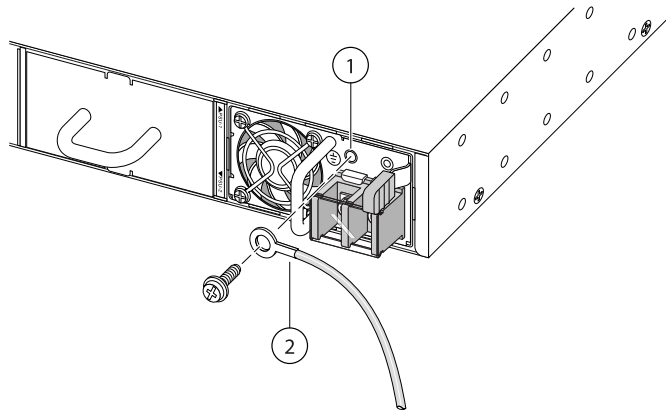

Figure 370: Connecting the Ground Wire
- 2 Identify the grounding point on the front panel of the power supply (see Figure 370: Connecting the Ground Wire on page 387).